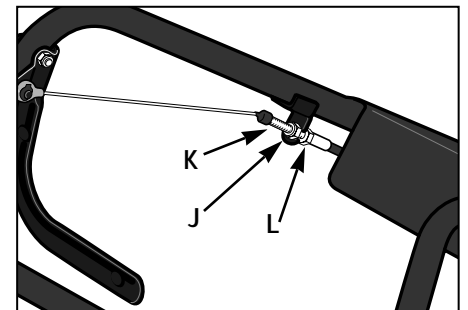

Fig. 5-3
4. To increase cable tension, loosen the upper nut (J, Fig. 5-3) securing the threaded cable adjuster (K) to the handlebar mounting bracket. Turn the lower nut to move the cable end down, then
5. To decrease cable tension, loosen the lower nut (L, Fig. 5-3), turn the upper nut to move the adjuster upward, then retighten the lower nut.